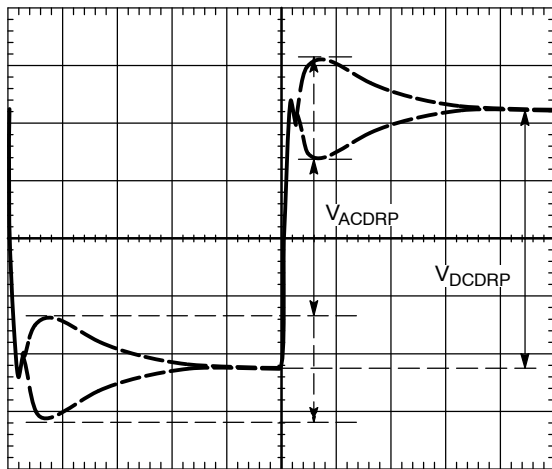

Figure 28. AC Load Line Waveform
- The resulting waveform will be similar to that shown in Figure 28. Use the horizontal cursors to measure  $V_{\text{ACDRP}}$  and  $V_{\text{DCDRP}}$ , as shown in Figure 28. Do not measure the undershoot or overshoot that occurs immediately after the step.